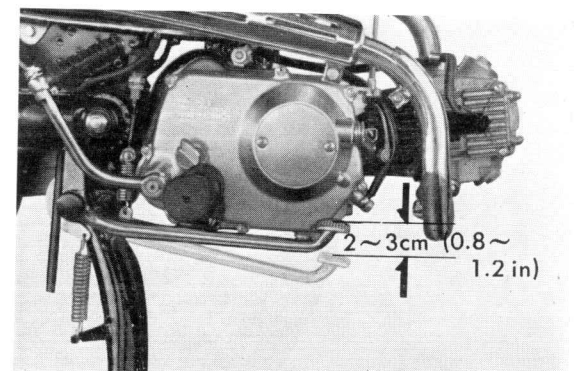

Figure 6-37. Free play of brake pedal
- a. The free play of the brake pedal, that is the distance between the normal attitude and the point where the brake starts to take hold should be 2~3cm. (0.78~1.12 in). (Fig. 6-37)